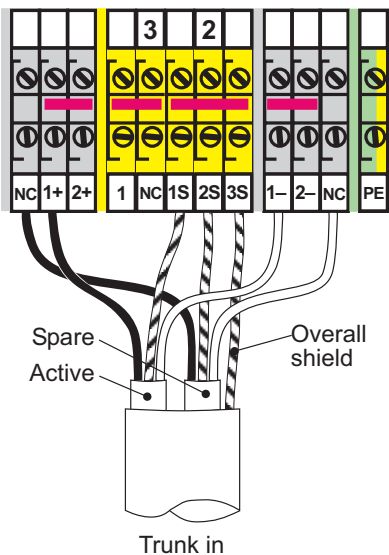

Figure 4.7 - 'Trunk In' with Active & Spare cable pairs
- c) Connect the prepared ends of the fieldbus trunk cable(s) into the appropriate '+', '-', and 'S' terminals, shown in Figure 4.7, and tighten the screw terminals to a recommended torque of 0.6 Nm.
Note: Figure 4.7 shows the screw-terminal '-PS' enclosure option, but the '-PC' cage-clamp terminal arrangement is similar.